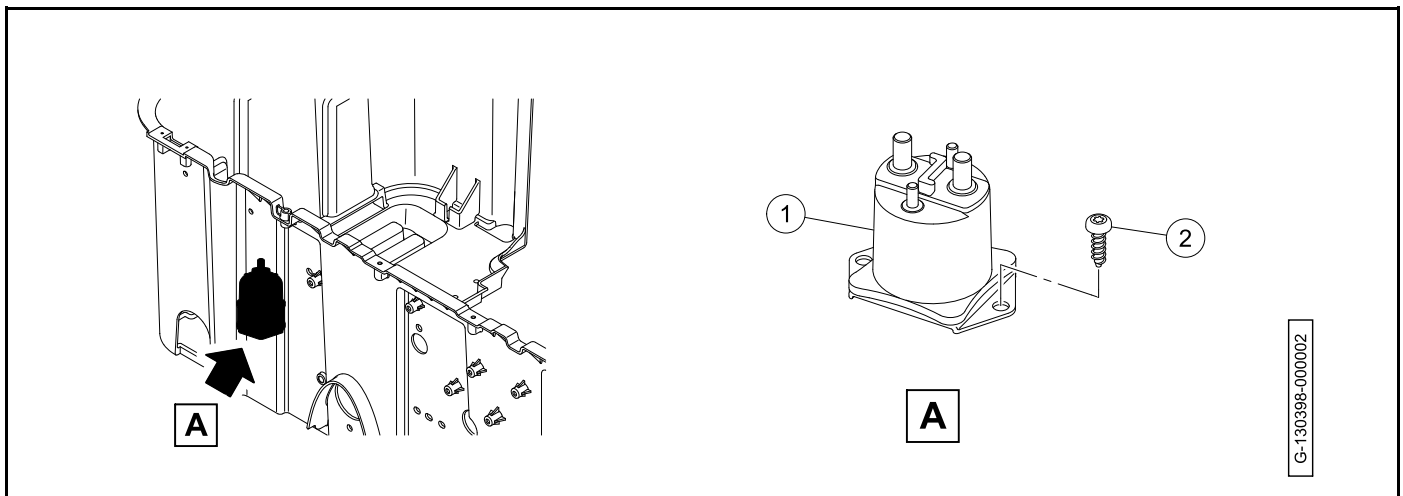

Figure 19-19 Solenoid Installation
1. Install the solenoid (1) in the vehicle (**Figure 19-19, Page 19-19**).